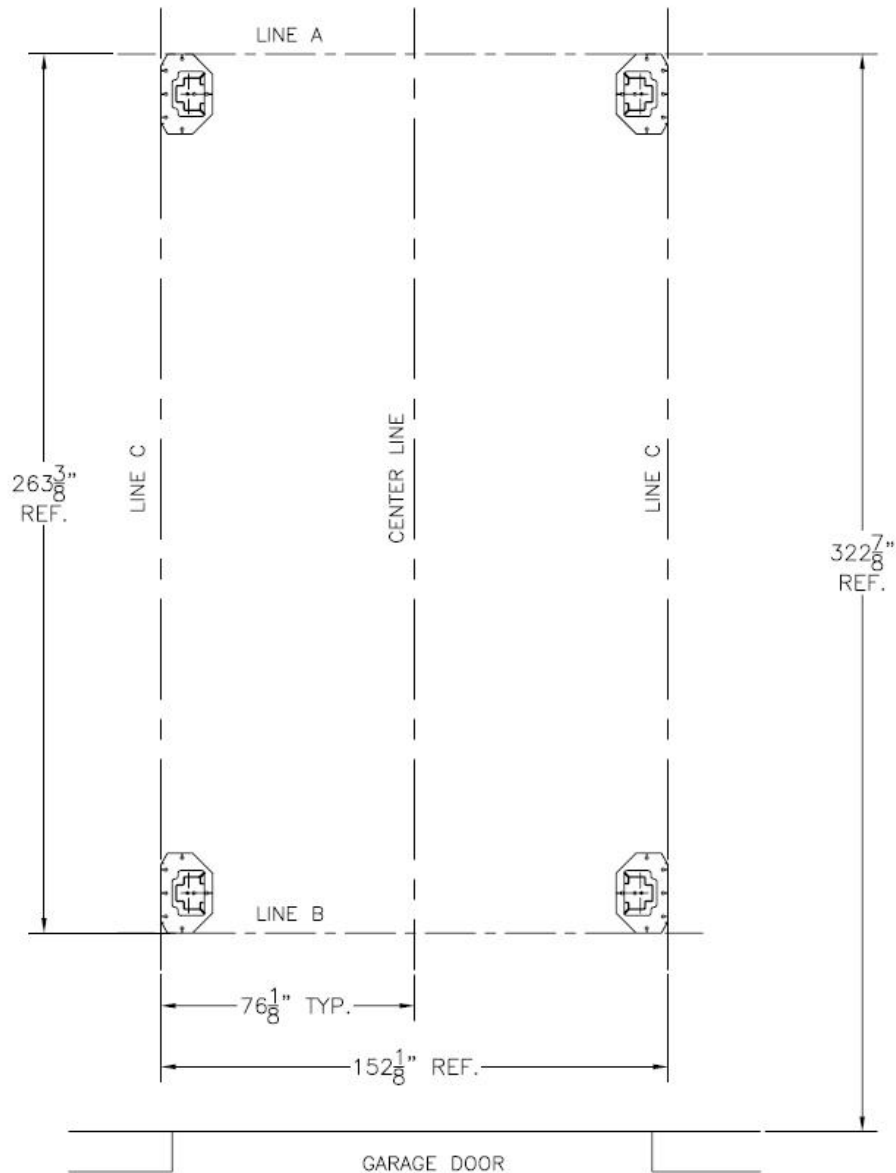

Figure 1. Chalk line layout
An outline matching the dimensions shown in Figure 1 will need to be marked on the floor. Refer to Figure 1 for outline dimensions. Refer to General Lift Specifications for overall lift dimensions.
- **Refer to Figure 1.** Make a chalk line parallel to the doorway at least $322\frac{7}{8}"$ in from the doorway. This will be the location for the front face of the tower baseplate. Call this line "A".
- Remove the left and right deck assemblies from their packaging and place them on axle stands as follows (see Figure 1):
removed and lying at each corner of the lift. Before proceeding, check that the layout matches that shown in Figure 1, that the lift is square and that there is a 40" gap between the decks along their entire length.
- Check all layout dimensions in the General Specifications (pg. 4) and Figure 1 before continuing with anchor installation.